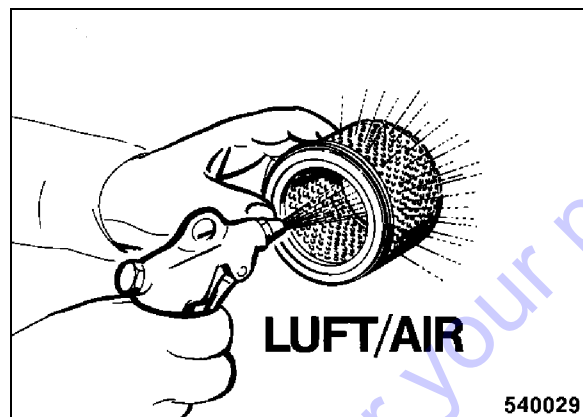

Fig. 57
- In case of dry fine dust blow out the filter cartridge carefully from inside to outside with dry, clean compressed air (Fig. 57) (max. 6 bar).